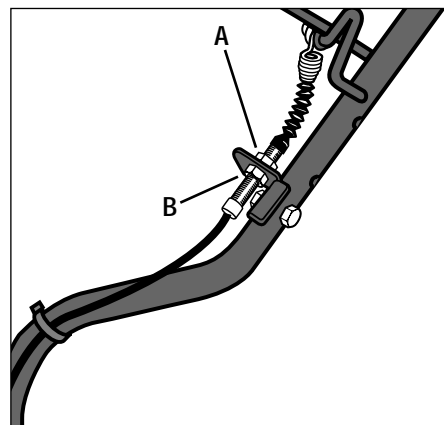

Figure 5-1
1. Stop the engine and wait for all parts to stop moving. Adjust the two jam nuts to stop moving. Adjust the two jam nuts on the control cable adjustment stud (see Figure 5-1) as follows:
- a. To tighten belt tension, thread the upper nut (A, Figure 5-1) upward one or two full turns, followed by the lower nut (B). Tighten both nuts securely. Test unit and readjust jam nuts as needed.
- b. To loosen belt tension, thread the lower nut (B) downward one or two full turns, followed by the upper nut (A). Tighten both nuts securely. Test unit and readjust jam nuts as needed.